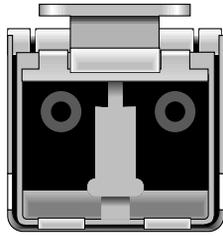

FIGURE 9-4 Duplex Jack at the End of an SFP
2. Plug one end of a Fibre Channel cable into the duplex jack at the end of the SFP, as shown in FIGURE 9-4.